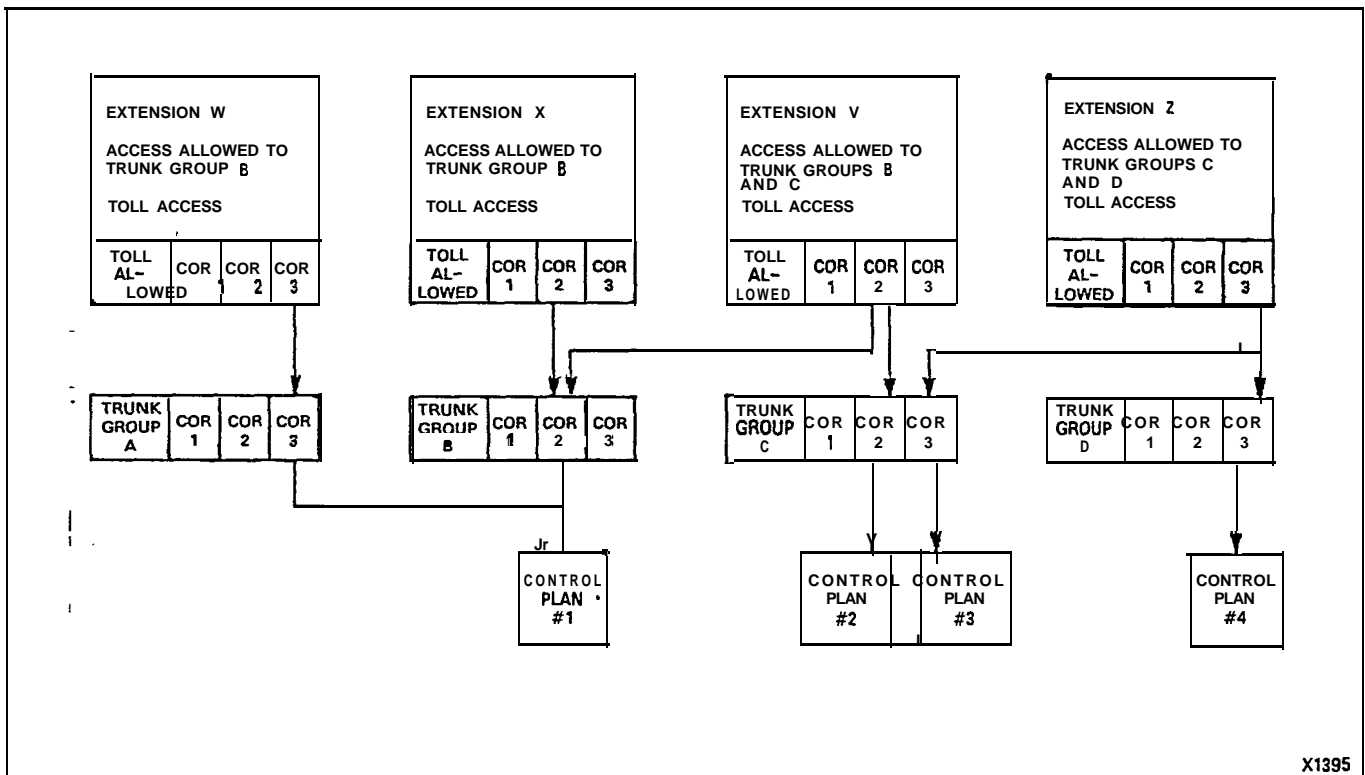

Figure 3-2 Basic Block Diagram
3.03 Each extension may be defined as Toll-Allowed or as having one of three CORs. Toll-Allowed indicates that no denial checking will be done for an extension. A COR assignment will indicate that denial checking will occur for trunk calls made from an extension. This checking will be according to the Control Plan linked to the extension's COR number within the Trunk Group. The linking of an extension's COR (in a Trunk Group) with a Control Plan is shown in Figure 3-2, using the following information: